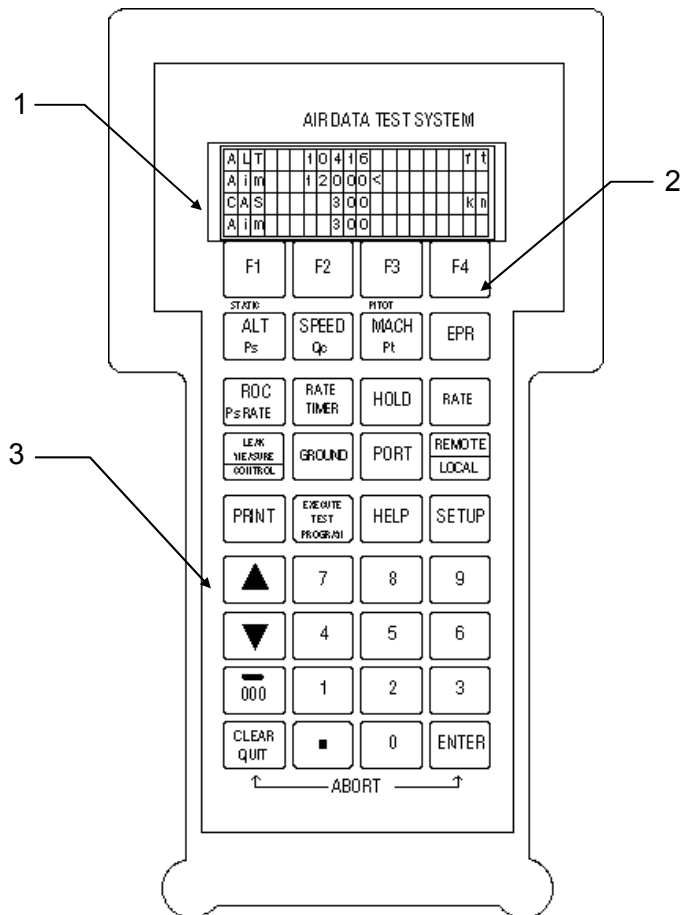

Figure 5 DPS500/501 Remote Handheld Terminal
C. REMOTE HANDHELD TERMINAL (Fig. 5).